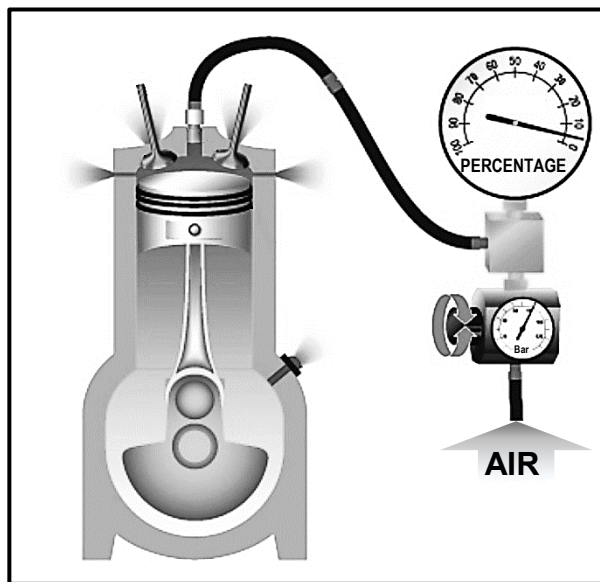

FIGURE 4.1
4.1 Identify the test that is conducted in FIGURE 4.1 below.